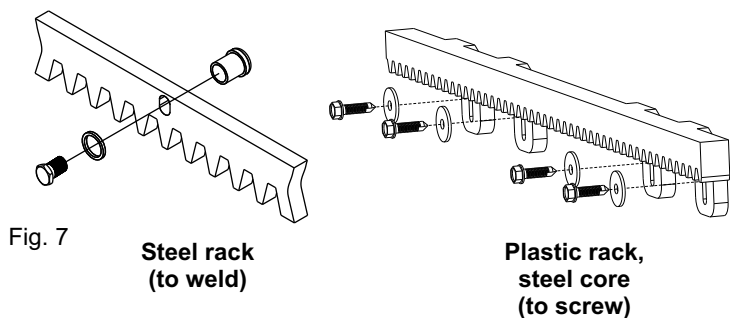

Fig. 7
5.2. Fix on each gear rack element the support pawls with the appropriate lock screws, make sure to put them in the upper part of the hole (Fig. 7);